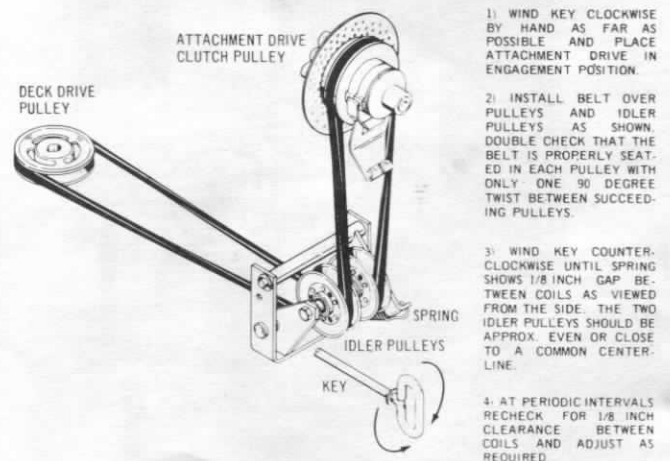

FIGURE 5
### 3. Drive Belt Tension. See Figure 5.
10. Check to make sure the belt is properly located in each pulley. Turn the adjusting crank counterclockwise to tension the belt until the idler spring coils open 1/8 inch (approximately the thickness of two nickels. See Figure 5 and 14.) Disengage the attachment drive lever and reconnect the spark plug wire(s).